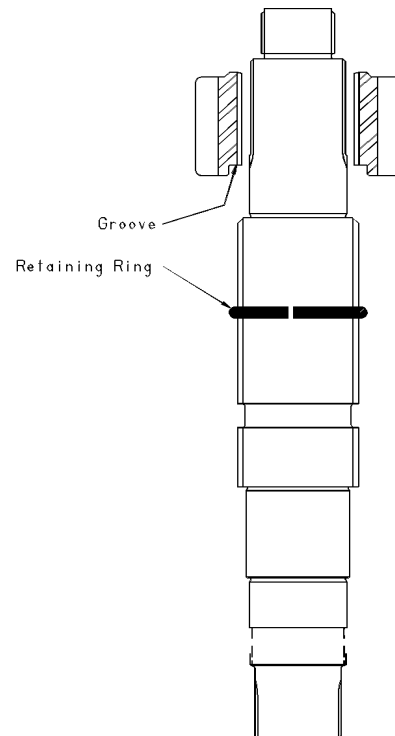

Fig 33
3. Install the underdrive gear onto the threaded end of the shaft. Check to see that the retaining ring is fully seated in the groove on the underside of the gear. See Fig. 33.